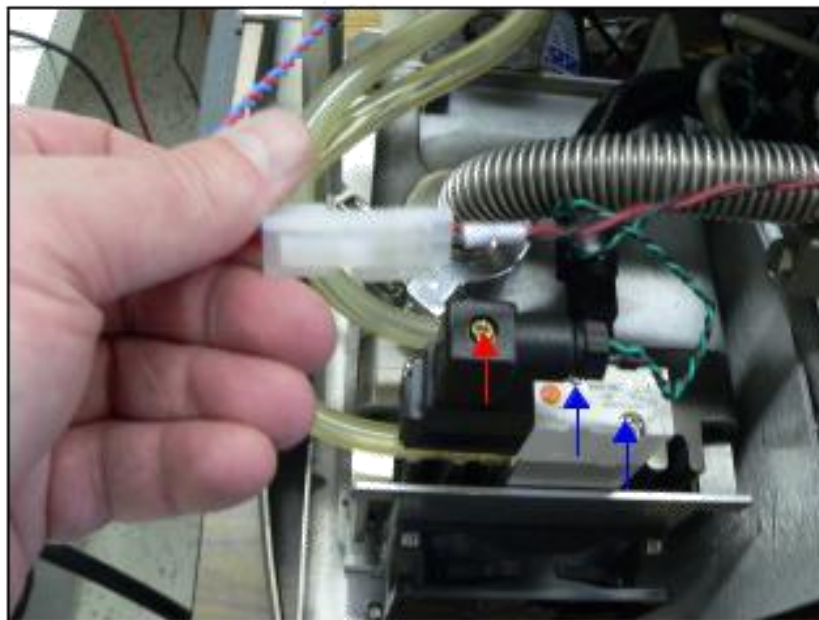

Figure 10: Unit Screws
4. Unscrew the black cover using the Philips head screw, pull up the cover and disconnect (red arrow in Figure 10: Unit Screws)
5. Unscrew the two Philips head screws (blue arrow in “Figure 10: Unit Screws”) and pull the complete black/grey body up and out.